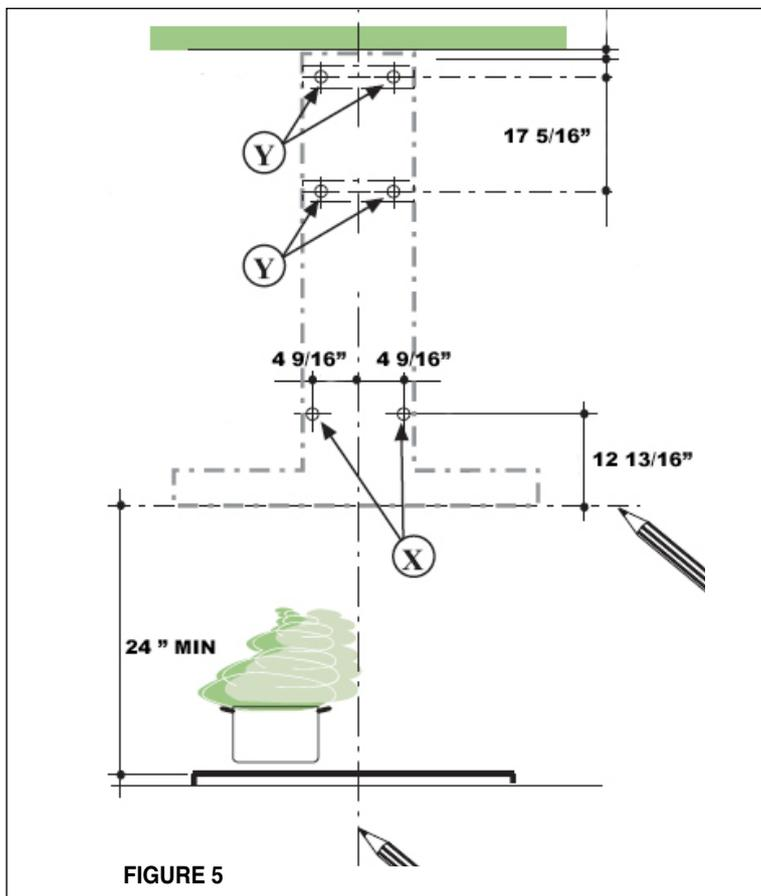

FIGURE 5
4. The chimney mounts by two brackets (E in FIGURE 1). Note the position of the brackets. The top bracket should be installed about 1/8" away from the ceiling. The bottom bracket must be installed at the bottom point of the upper chimney sleeve. See "Y" in FIGURE 5, and use 2 screws (G in FIGURE 1) to attach each of the brackets to the wall. Use the center line on the wall as the middle point for the chimney brackets.
5. For the most secure installation, the MOUNTING SCREWS (D in FIGURE 1) which mount the CANOPY SECTION (A in FIGURE 1) should be installed into wood. Mark the wall along the horizontal line 4 9/16" in from the center line on either side (as indicated in X - FIGURE 5) and install the MOUNTING SCREWS into the wall leaving about 1/4" gap between the wall and the head of the screw.